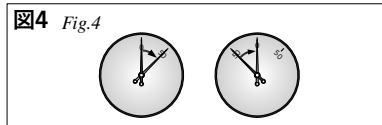

図4 Fig.4
- ⑤ ニードルをあらかじめ所定のトルクに合わせて目盛が0を示すように使用することも出来ます。(図4)
- ⑤ The measurement can also be made by setting the main pointer to the desired torque, and pulling the wrench until the main pointer reaches '0' position on the scale plate. (Fig.4)
- ⑥ ニードルをあらかじめ所定のトルクに合わせて目盛が0を指すように使用する事も出来ます。(図4)
- ⑥ The measurement can also be made by setting the main pointer to the desired torque, and pulling the wrench until the main pointer reaches '0' position on the scale plate. (Fig.4)